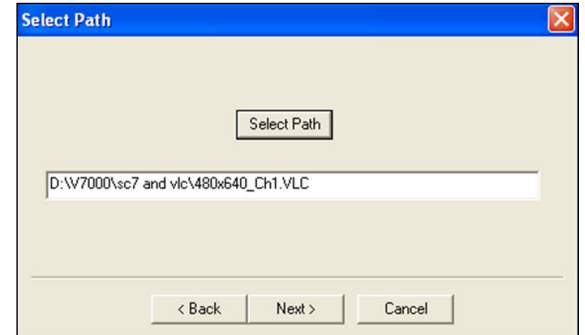

Figure 31: Navigating to .VLC File
8. Click **Select Path** to navigate to the location of the .VLC file created for Channel 1 and then click the **Next** button. Refer to **Figure 31**.